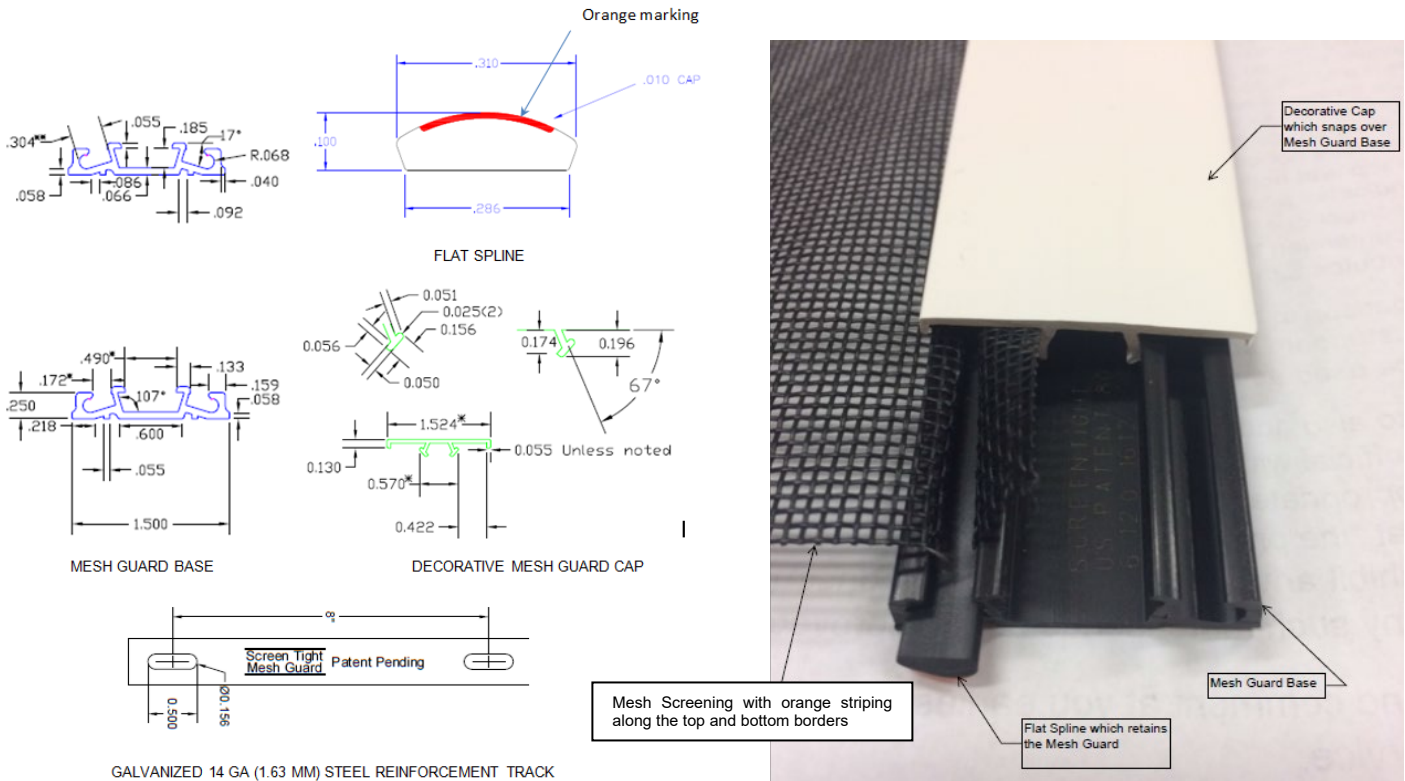

FIGURE 1—MESH GUARD SYSTEM
3.2.1 General: The Mesh Guard system is installed on guards with a minimum height of 36 inches (914 mm) or maximum height of 44 inches (1117.6 mm) above the walking surface. The mesh screening consists of a vinyl coated polyester core yarn-woven with a visible orange striping along the top and bottom borders. The mesh screening is held in place with an extruded polyvinyl chloride (PVC) flat spline with a visible orange striping; both are rolled into the cavity of the extruded PVC mesh guard base with a screening tool. A galvanized 14 gauge (1.63 mm) steel reinforcement track is used to secure the PVC mesh guard base to the wood framing. A decorative PVC mesh guard cap snaps over the PVC mesh guard base and comes in white, beige, grey, and brown. The PVC mesh guard base and cap come in 1-1/2 inch (38.1 mm) widths. See Figure 1 for details of the Mesh Guard System.
When installed on wood species with the minimum specific gravity of 0.42, each PVC mesh guard base is cut to length and installed with the galvanized 14 gauge (1.63 mm) steel reinforcement track using #6 x 1-¹/₄ inches (31.8 mm) stainless steel screws spaced at 8 inches (203.2 mm) on center. On vertical installations of the PVC mesh guard base, the galvanized 14 gauge (1.63 mm) steel reinforcement track was drilled ³/₄ inch (19.1 mm) from the top and bottom with an additional #6 x 1-¹/₄ inch (31.8 mm) stainless steel screw to secure the track to the PVC mesh guard base. The mesh screening, cut to length along the orange striping, is stretched across the mesh guard base and installed by rolling the PVC flat spline with the orange striping facing down, cut to length, into the cavity of the PVC mesh guard base with a screening tool. After the PVC flat spline is inserted, the decorative PVC mesh guard cap is cut to length and snapped into place over the PVC mesh guard base using a soft mallet. See Figure 1 for details.